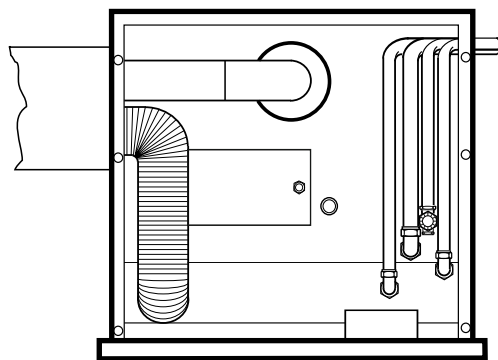

**Fig. 16 - Combi 70 pipe positions**
- 4 **Combi 70:** Fit the three push-fit elbow connectors onto the open pipe ends in the top right corner of the boiler. See Fig. 16. Connect the pipework (not supplied with the boiler) to the elbows as shown in Fig. 17.